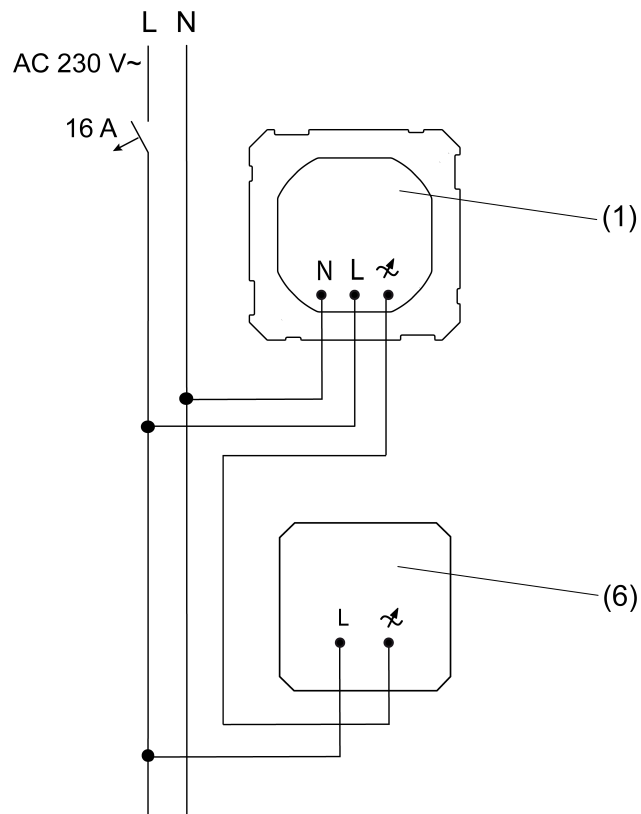
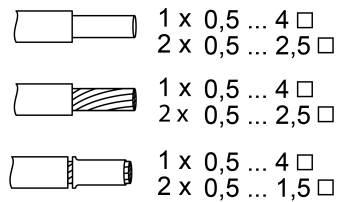

Figure 2: For dimmable light attachments: Connection diagram for LED dimmer 2-wire (6)
Figure 5: Clampable conductor cross-section
-  Observe clampable conductor cross-section (Figure 5).
- Connect the flush-mounted Plug & Light insert (1) for dimmable light attachments according to the following connection diagrams:
- LED dimmer with 2-wire connection (6) (Figure 2)